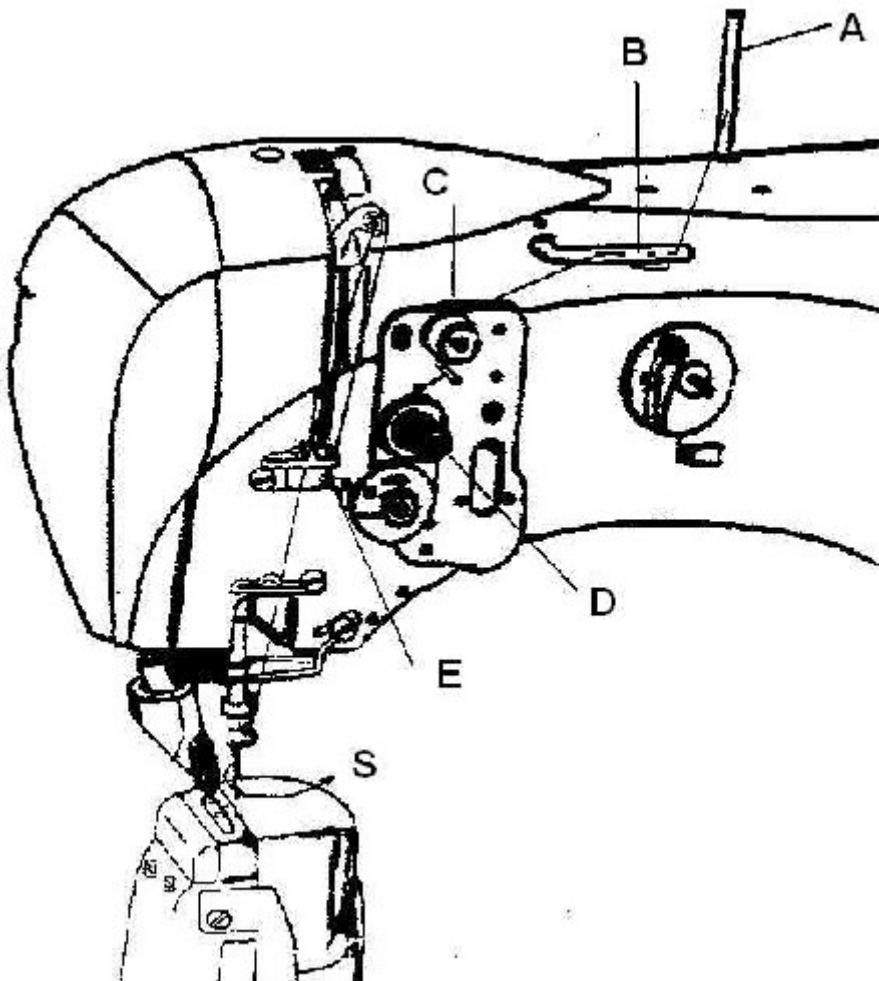

Fig.1
When threading the thread from bobbin stand into needle follow figure 1 for single needle machine. The thread pass from bobbin stand to thread guides on the machine head (A, B) through auxiliary tensioner and thread guide (C), through tensioner (D), tension spring (E) and thread take-up lever to the needle. The thread enters the eye from the side with a long groove. On single needle machines threading should be carried out according to figure following the arrow S.